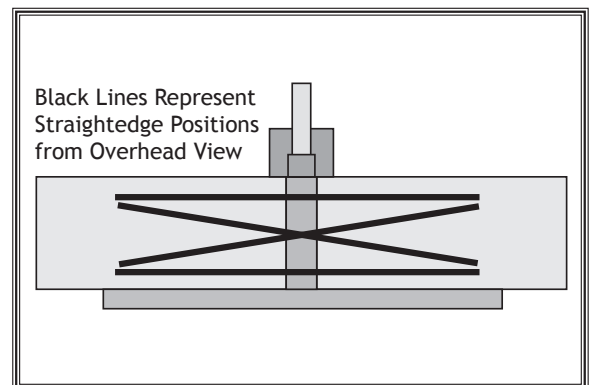

Figure 46. Straightedge positions for checking infeed/outfeed table parallelism.
- Place straightedge in one of the positions shown in **Figure 46**, and rotate leveling adjuster(s) under straightedge until straightedge lies flat across both tables.